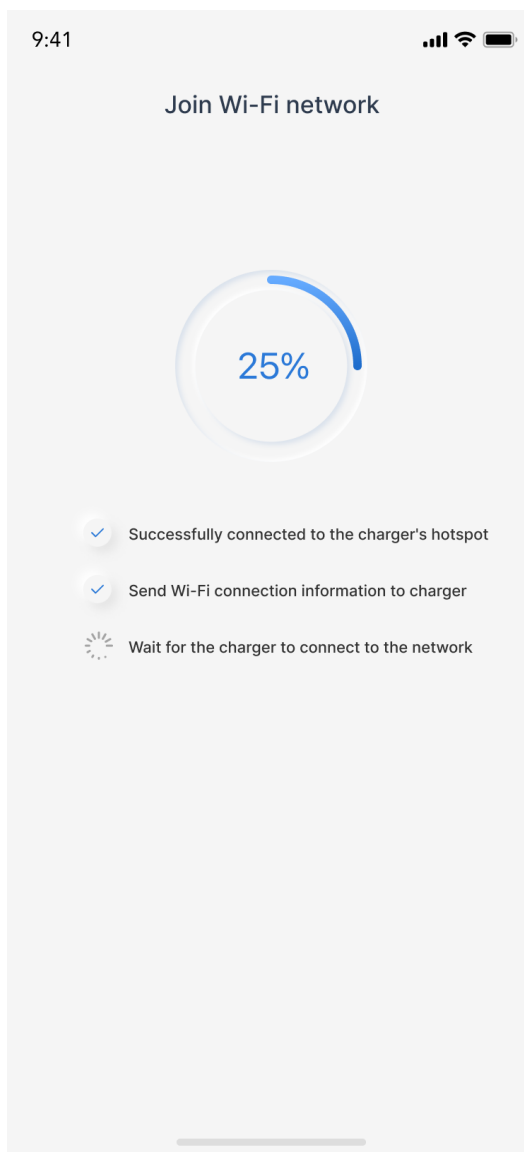

Fig.6.1.10
10. Wi-Fi connection will be automatically proceeded. (See Figure 6.1.10)